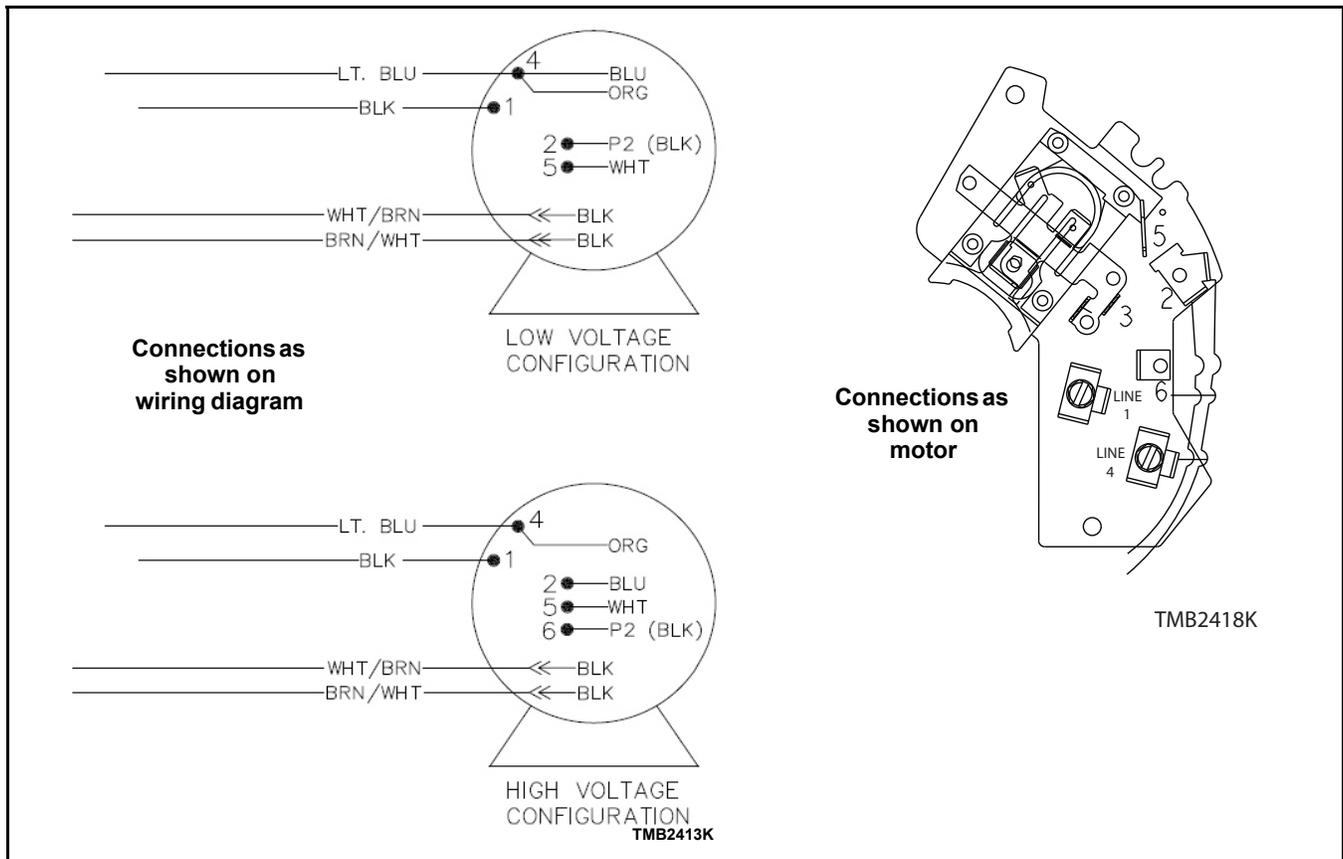

Figure 1
- a. Connect light blue harness wire to LINE 4. Refer to *Figure 1*.
- b. Connect black harness wire to LINE 1. Refer to *Figure 1*.